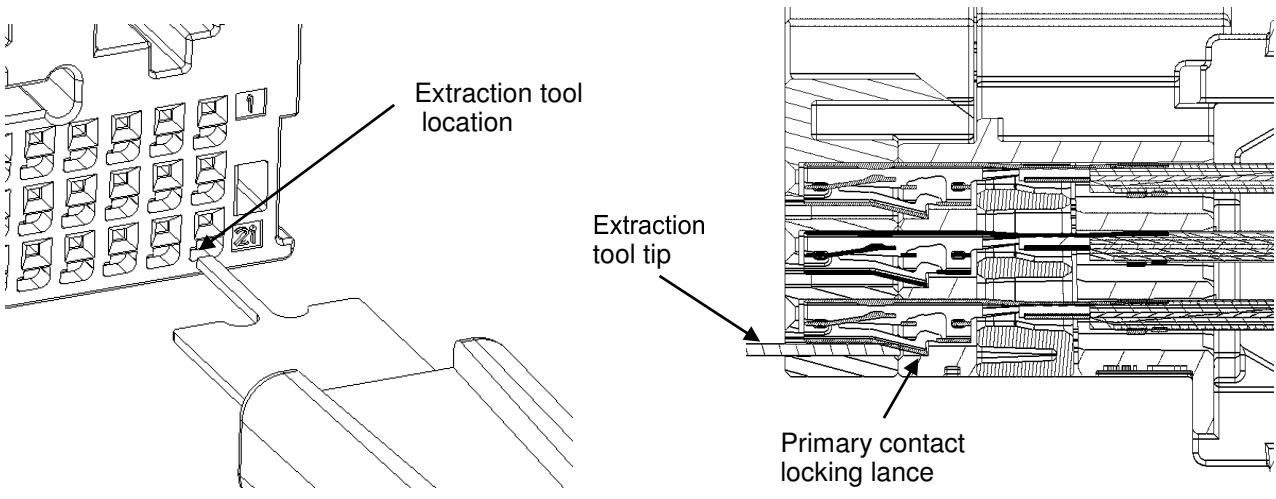

Figure 8
2. Insert contact removal tool (as shown in Figure 6) into the selected exposed contact cavity, as shown in Figure 8. Follow instruction sheet 408-32201 for complete instructions on how to use the Extraction tool.